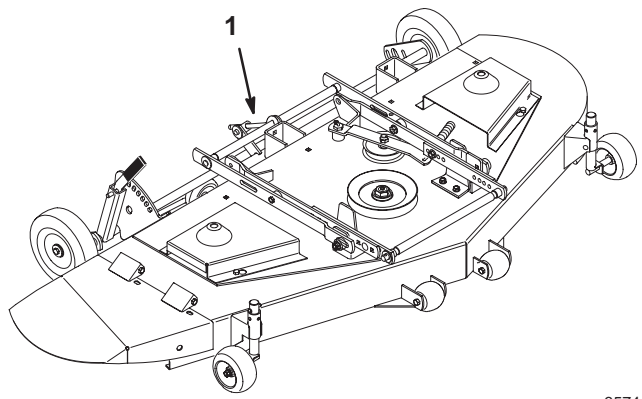

Figure 19
5. If an adjustment is required, turn the adjusting nut (Fig. 19) on the back of the mower.